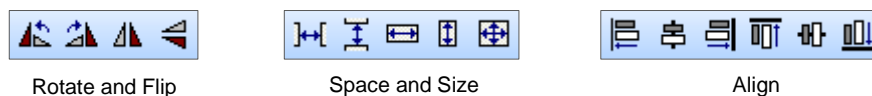

Figure 147. Symbol Controls
2. Use the controls on the toolbar to arrange the selected symbols (as shown in Figure 147).